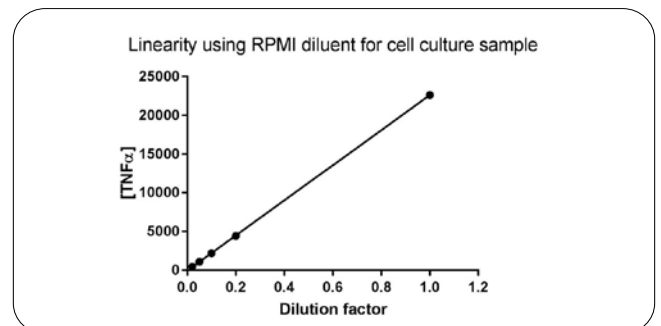

Figure 7: Linearity for a DELFIA TNF α assay using cell culture supernatant samples.
5. To determine linearity, plot the interpolated concentrations of the undiluted spike-in and respective dilutions versus the dilution factor (e.g., 1, 0.5, 0.25, 0.125, 0.0625, 0.03125). Perform a linear regression and determine linearity by correlation coefficient (Figure 7).